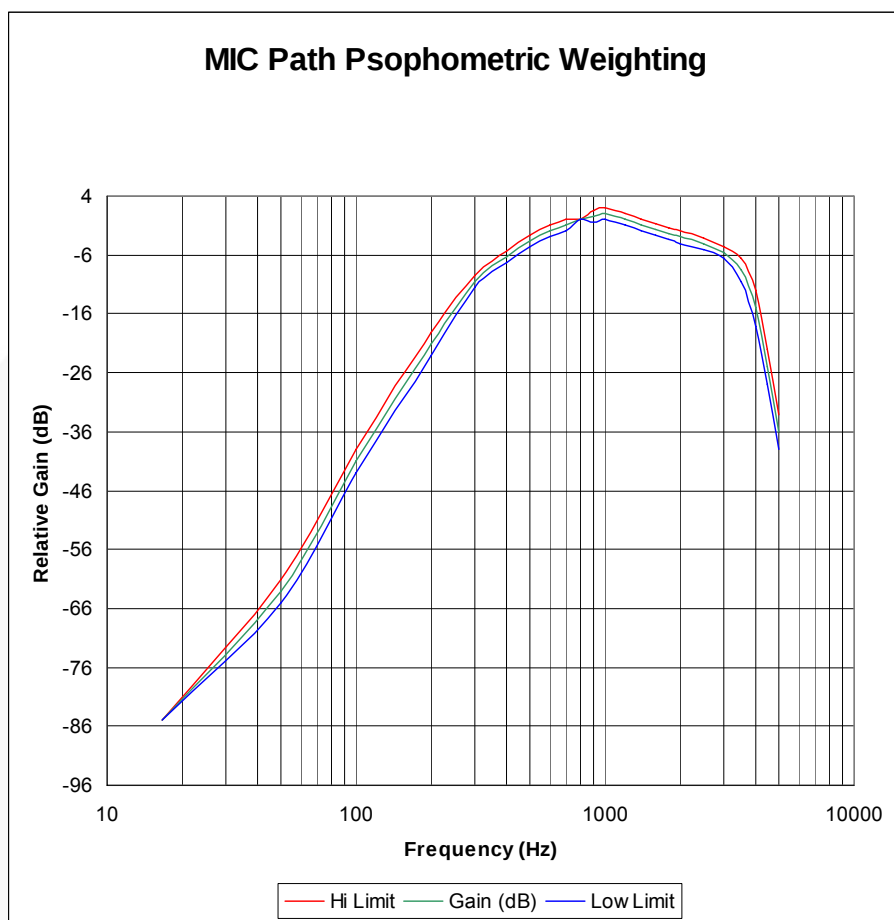

Figure 4. Microphone Path Psophometric Weighting Function
- Microphone path noise measured using psophometric weighting function (see Figure 4).